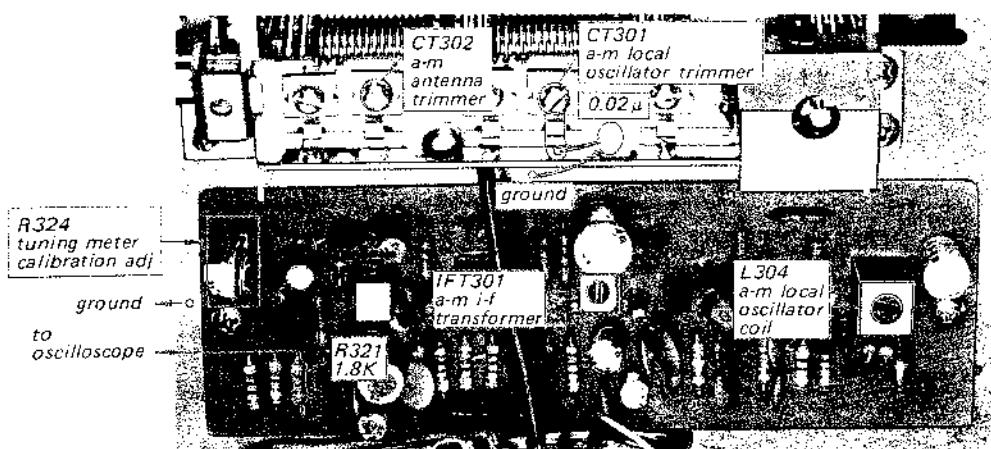
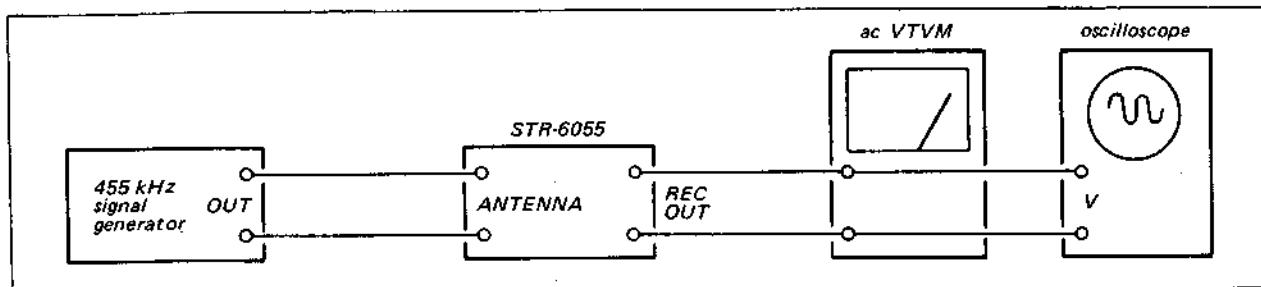

Fig. 3-9. Disabling the a-m local oscillator, a-m detector output connection and adjustment parts location
Fig. 3-11. A-m i-f strip alignment test setup by rf signal generator
Note: To perform this alignment, the local oscillator should be killed. To do this, shunt the local oscillator capacitor with a 0.02μF capacitor as shown in Fig. 3-9.
2. Connect the input cable of the oscilloscope to R321 (see Fig. 3-9) and ground on the a-m cp/i-f amp board with alligator clips as shown in Fig. 3-9.
5. Turn the top core of IFT301 (see Fig. 3-9) to obtain a maximum and symmetrical response as shown in Fig. 3-8.
3. With the equipment connected as shown in Fig. 3-11, turn the top core of IFT301 (see Fig. 3-9) to obtain maximum output.
Canada Model Serial No. up to 700,300 } See Fig. 3-9.
^a Note: R324 (see Fig. 3-9)